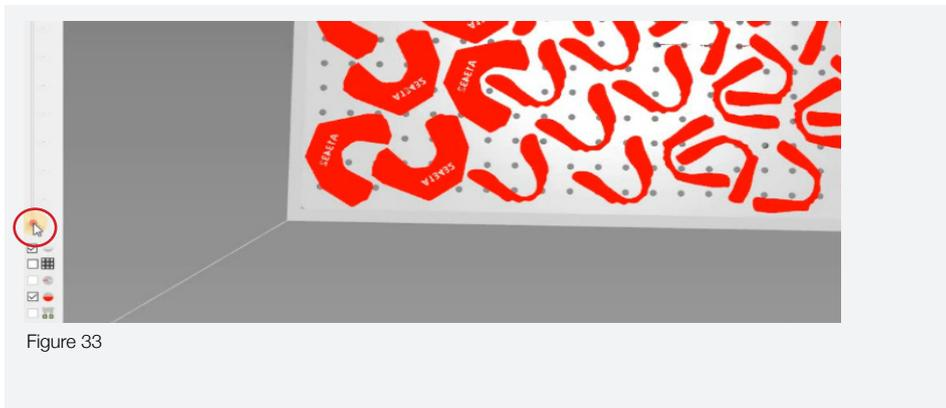

Figure 33
- Finally it's worth checking all of the models are going to print their first layer on the platform. To do this drag the slider showing the first layer (figure 33).